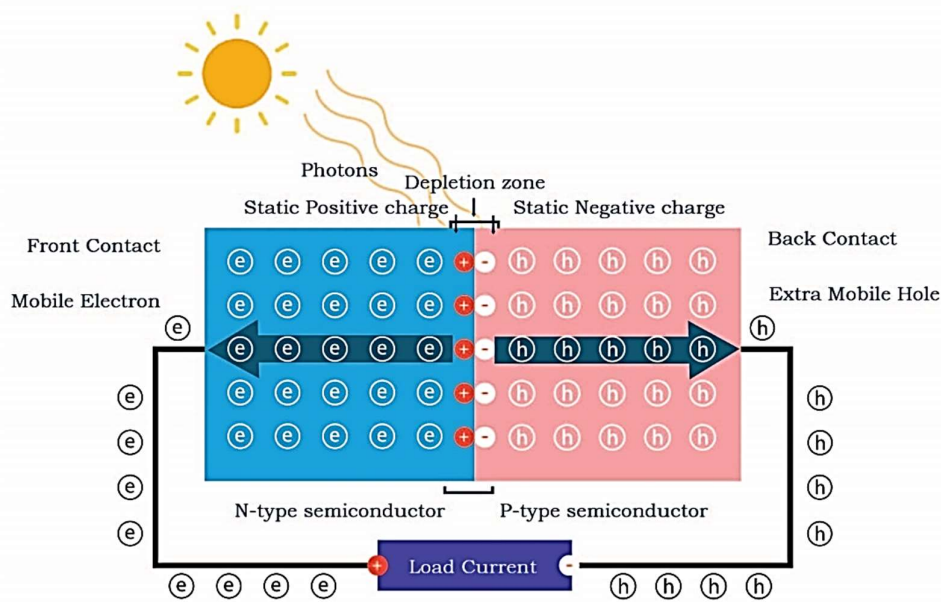

Fig 1.16: Photovoltaic effect
Photovoltaics (PV) involve the technology of converting sunlight directly into electricity as shown in Fig. 1.16. The term “photo” means light and “voltaic” means electricity. A photovoltaic (PV) cell, also known as a “solar cell” is a semiconductor device that generates electricity when light falls on it.